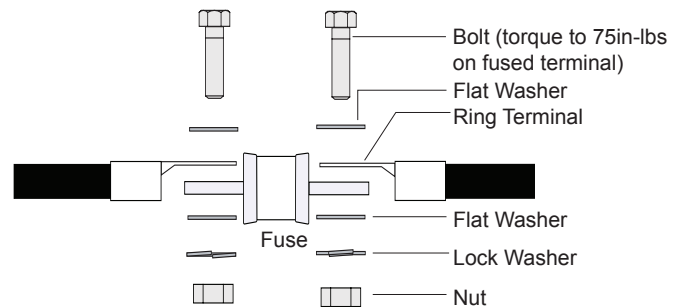

Fig. 2-18, Inline Fuse Stack Up
4. Where applicable, install the Inline Fuse, (see Fig. 2-18).